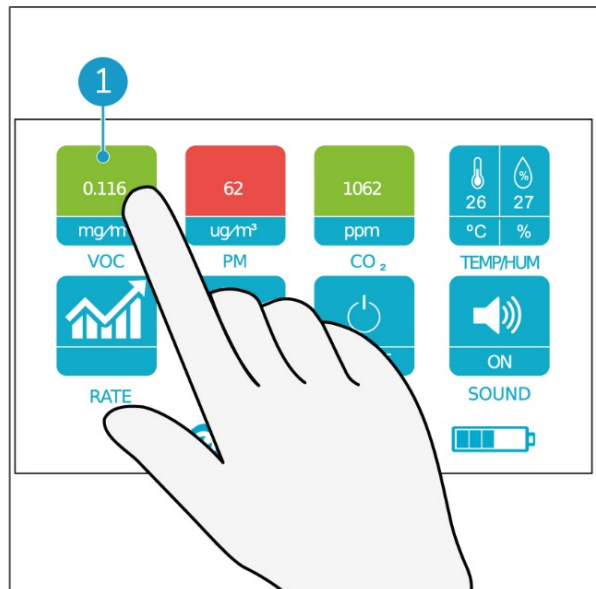

Figure 10
1. Touch the VOC button (Figure 10, pos 1) with your finger.